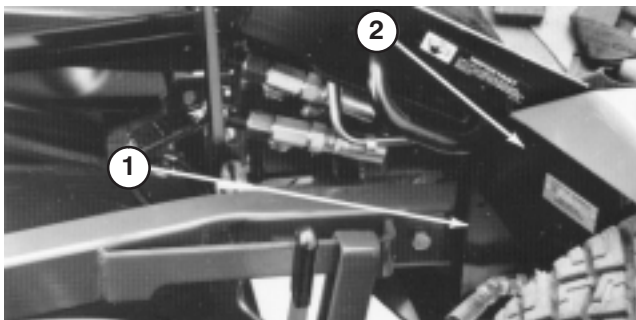

Figure 17
2. Disconnect (3) hydraulic lines (quick couplers) and wire harness at rear of deck.
4. Remove (2) capscrews and locknuts securing cutting unit carrier frames to traction unit lift arms (Fig. 17).